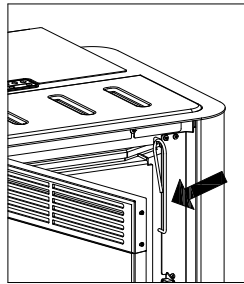

FIGURE 2
- **Clean the pipe unit** – Using the cold handle supplied (the cold handle hangs inside the stove door - fig.2) shake vigorously the rods placed under the cover 5-6 times. This will remove any soot that has deposited on the exchanger smoke ducts during normal stove operation.